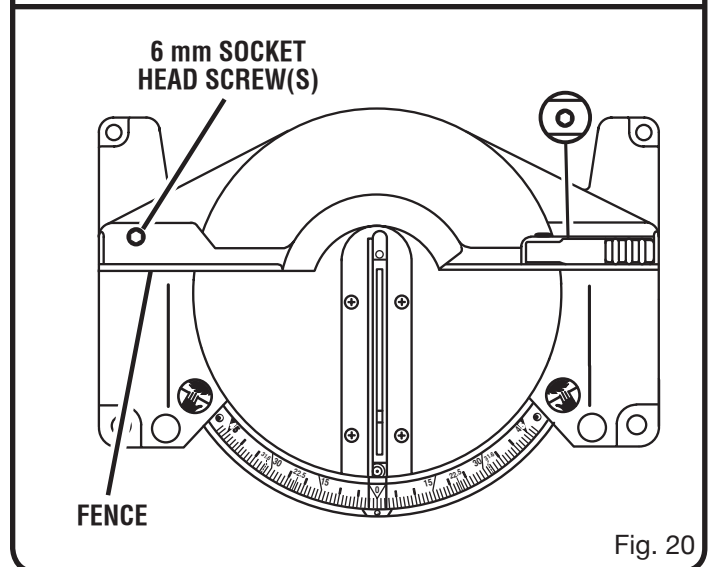

Fig. 20
- Using the 6 mm hex key, loosen the socket head screws securing the fence. See Figure 20. Adjust the fence left or right until the framing square and throat plate are parallel.